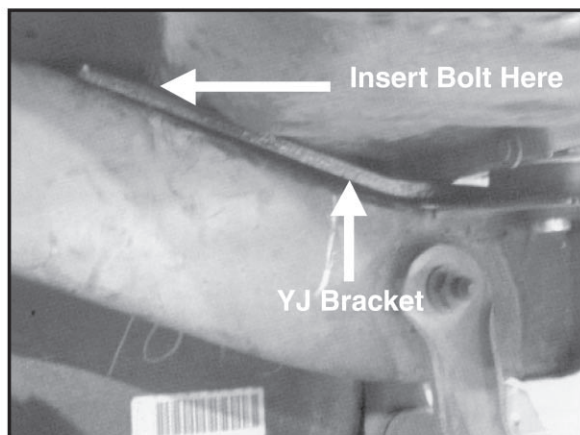

**Figure 1**
1. Remove factory bumper and rear body mount on both sides (Figure 1).